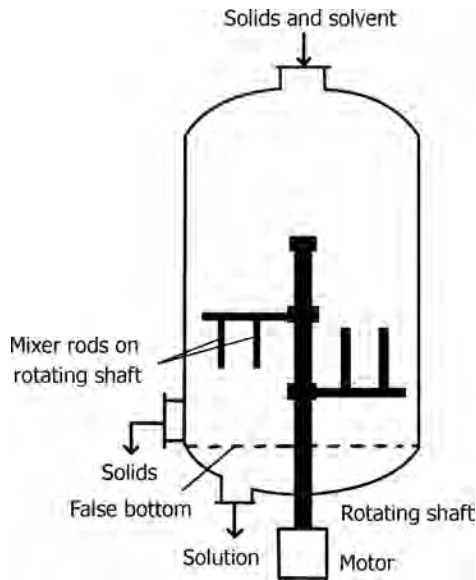

FIGURE 17.59 Batch solid-liquid extractor.
- Figure 17.59 illustrates a vertical batch solid–liquid extraction vessel.